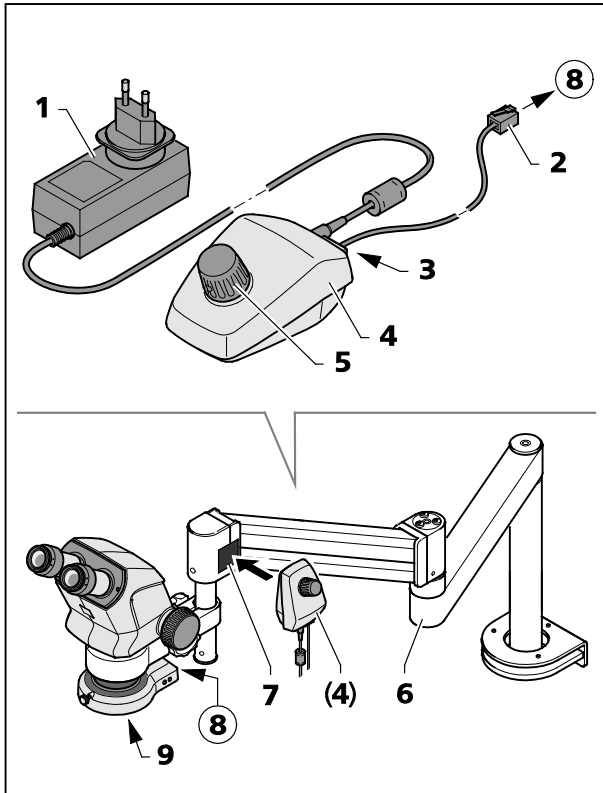

Fig. 18 Controller K LED
The Controller K (Fig. 18/4) is used to activate the ring illuminator in case of applications with boom stands B or U or additional stands.
- Screw-fasten the front lens system (Fig. 18/7) to the microscope body.
- Secure the adhesive side of the magnetic plate (Fig. 18/7) to the swivel arm stand.
- Plug the connection cable supplied with the device (1 m long) (Fig. 18/2) into the socket (Fig. 18/8) on the ring illuminator and into the socket (Fig. 18/3) on the back of the controller K.
- Place controller K (Fig. 18/4) next to the magnetic plate (Fig. 18/7).
- Connect controller K to the power supply using the power unit (Fig. 18/1).
- Align swivel arm stand (Fig. 18/6) to enable an ergonomic working position.
- Turn the knob (Fig. 18/5) on the controller K to switch the ring illuminator ON and adjust illumination intensity by turning the knob.